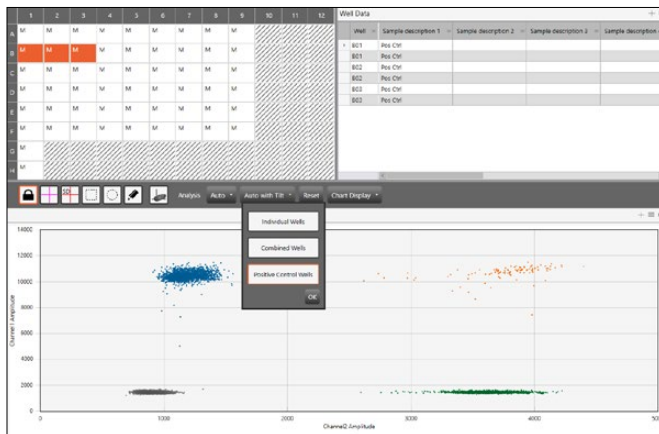

Fig. 3. 2D Amplitude screen when using positive control–based autothresholding with tilt.
3. Click the **Auto with Tilt** button, select **Positive Control Wells** at the bottom of the dropdown menu, and click **OK**. This will autothreshold all selected wells based on the designated positive control wells. See Figure 3 for details.